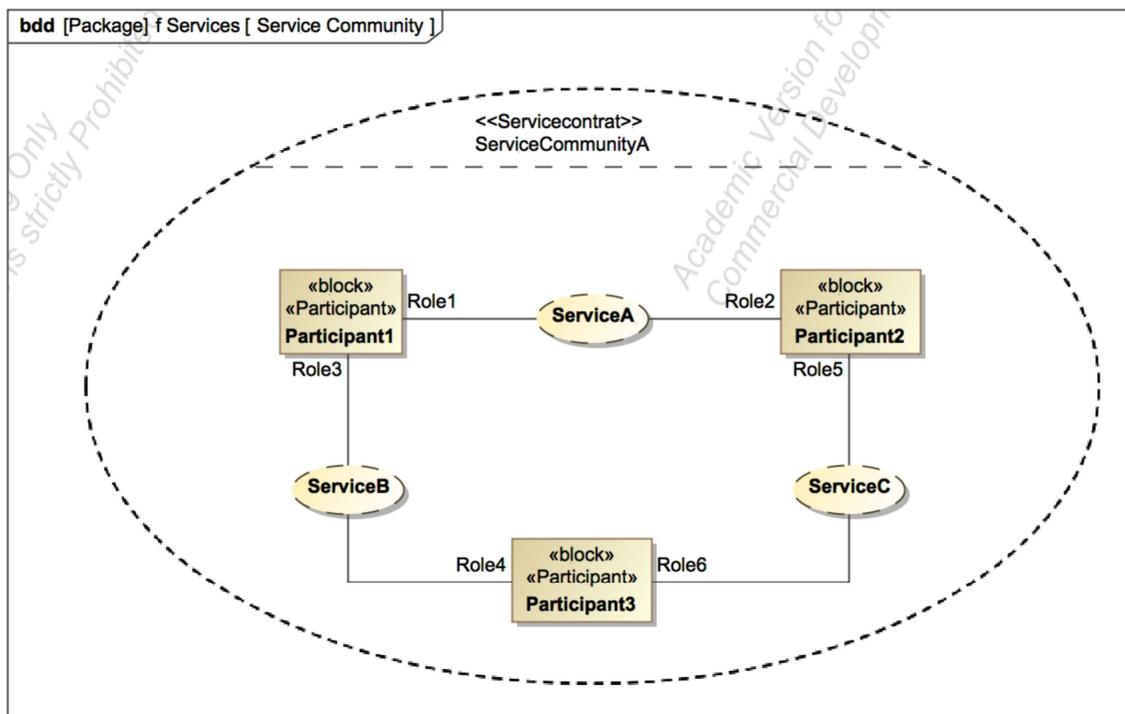

Figure D4. Service Community with Multiple Participants and Services
- In Fig. D4, the simple client/provider relationship is expanded to suggest how multiple Participants can invoke services and receive the responses. Each Connection modeling a Service Channel should be decorated with roles such as Client or Provider to show how a given Participant is involved in the use of a given service.